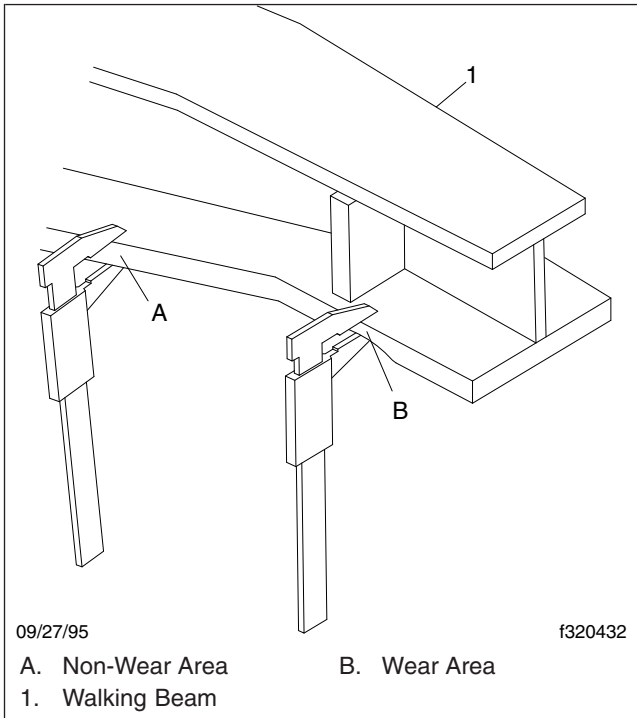

Fig. 5, Walking Beam End Wear Thickness
5. Manipulate the walking beam so that a micrometer, vernier, or dial caliper can be used to determine the wear area thickness on the bottom face. See **Fig. 5**. Measurements should be taken a minimum of 1/2 inch from the beam flange edges to eliminate any edge wear that may have occurred. Subtract the wear area thickness (see **Fig. 5**, Ref. B) from the thickness at the non-wear area (see **Fig. 5**, Ref. A) to determine the amount of wear.